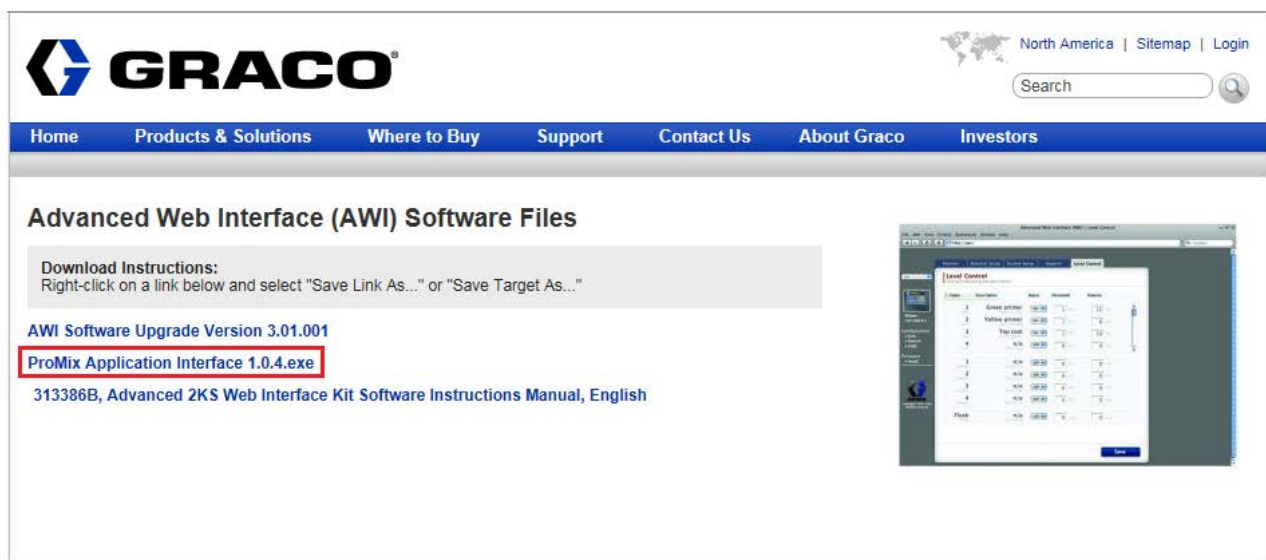

FIG. 1: De Graco-softwaredownloadpagina Advanced Web Interface (AWI)
- a. Deze software kunt u downloaden van de Graco-softwarepagina Advanced Web Interface (AWI). Zie FIG. 1.